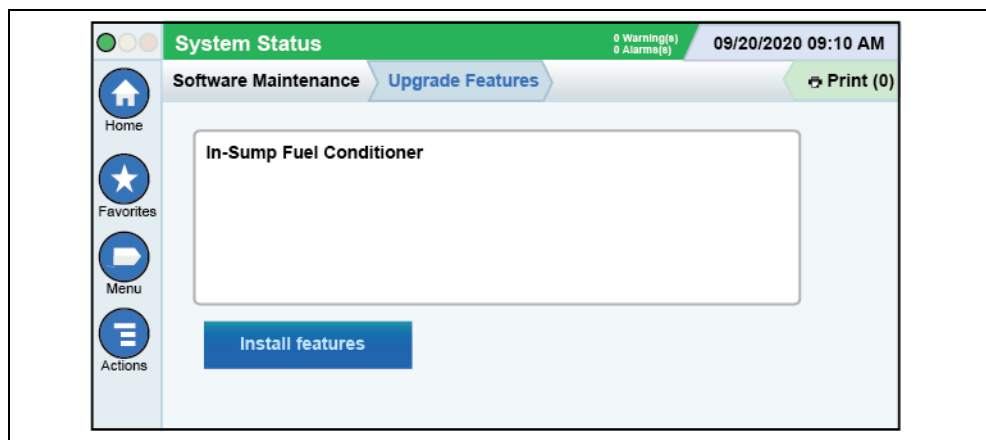

Figure 28. TLS-450PLUS Upgrade Features Screen
2. Touch **Menu>Software Maintenance>Upgrade Features** to display the Upgrade Features screen (see Figure 28).